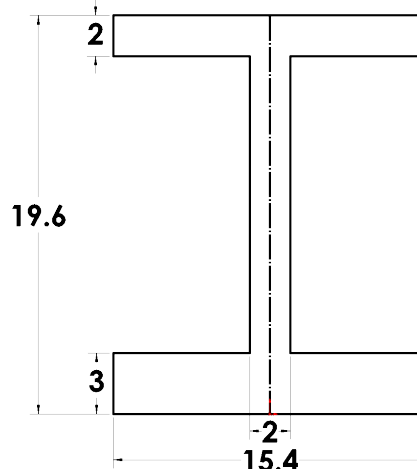

Fig. 6
Step 9. Add dimensions, **Fig. 6**.